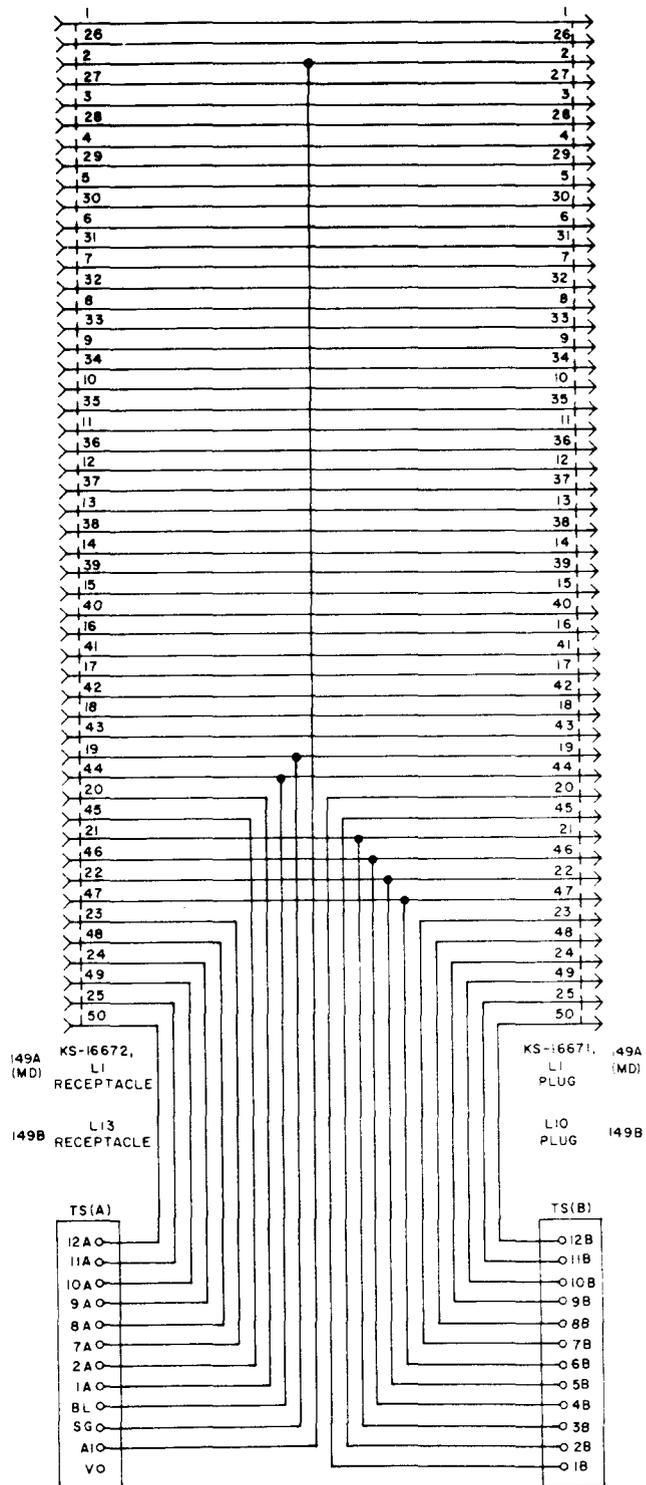
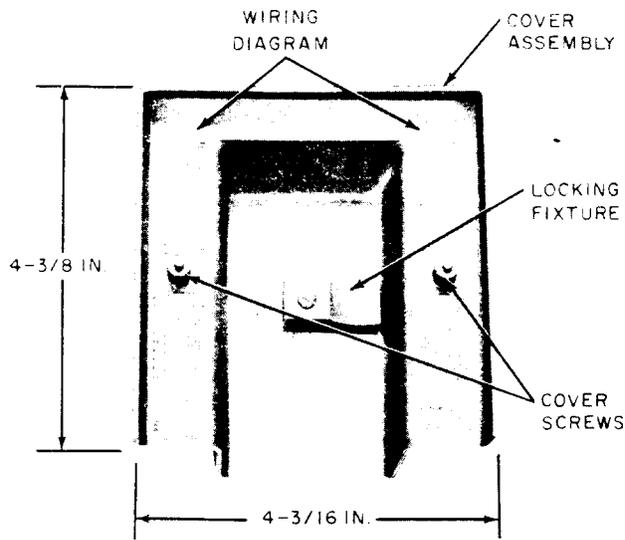

Fig. 5—149A (MD) and 149B Adapters, Schematic
Fig. 6—149B Adapter, Inside Cover
2.13 A locking screw assembly is provided to secure telephone set mounting cord plug and cable receptacle to the adapter. The plug and receptacle are wired as shown in Fig. 5. Terminal strip A is wired to pins of the receptacle, and terminal strip B is wired to pins of the plug.
2.16 The 149B adapter has a removable high-impact polystyrene cover (Fig. 6). Two holes in the baseplate and wiring board provide means for mounting the adapter.
2.17 A reversible locking fixture attached to the inside of the cover (Fig. 6) secures an external plug (KS-16689, List 1 plug-ended cord) to the KS-16672, List 13 receptacle.
2.20 The wiring diagram (Fig. 5) is also molded into the inner surface of the cover assembly (Fig. 6).